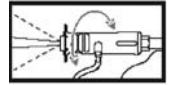

Figure 14
2. Twist nozzle cover to adjust spray pattern from jet to wide fan spray (Figure 14).